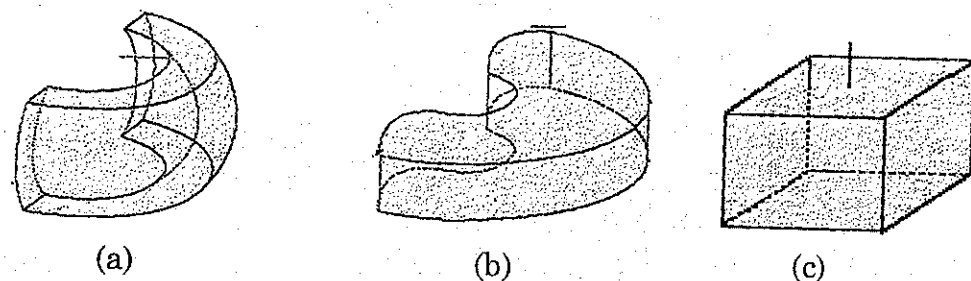

Fig. 1
11. a) Identify the appropriate robots for the given work volume in figure 1 and sketch the 3 dimensional configurations with joint description in detail. (13)